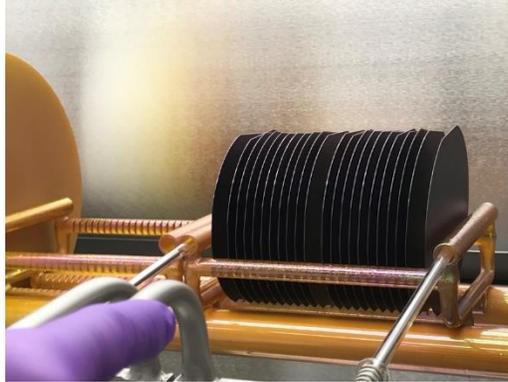

Figure 5. Handler use for Tube 1 LSN boats.
- b. For LSN Tube 1, align the handler arms with the two tubes of boat, and insert into the tubes (Figure 5).